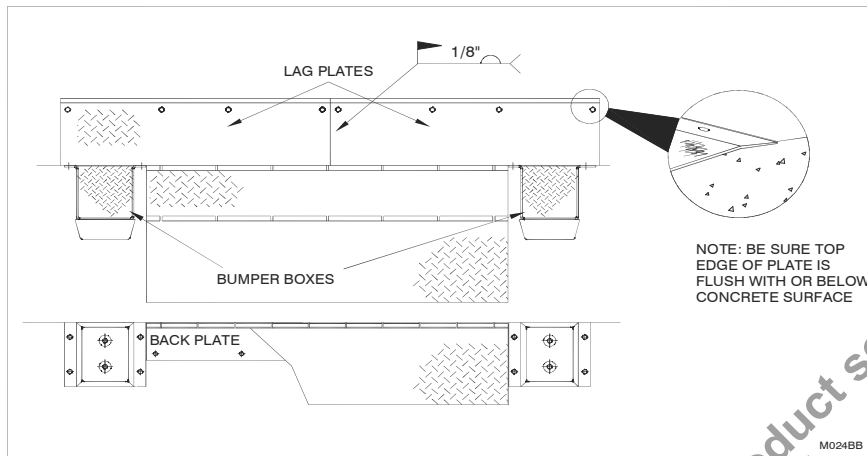

Figure 6.1: Lag Plate - 96" long (Surface)
4. Position bumper boxes 1/2" from back plate as shown in Figure 6.1: Lag Plate - 96" long (Surface) on page 9, and 1/4" above the floor.